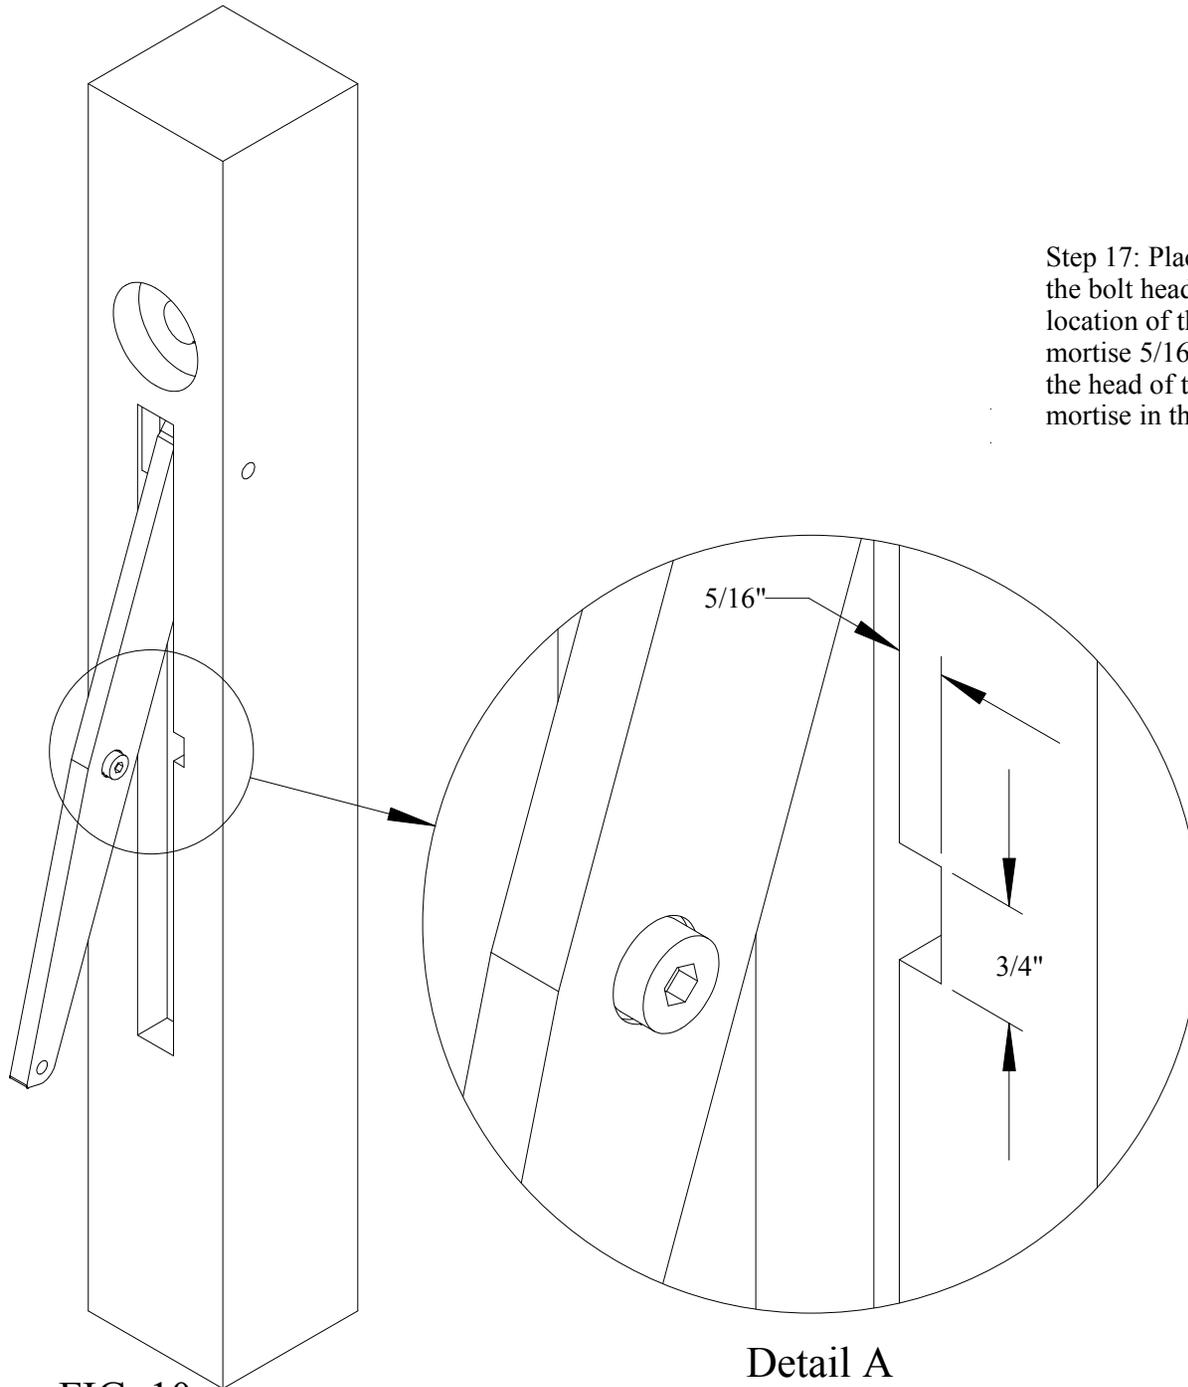

**FIG. 9**
Step 15: Install the wear plate at the bottom of the 7/8" deep left side mortise using the #6 X 3/4" wood screws. Pre-drill with a 7/64" diameter drill bit. See Fig. 9.
Step 16: Place the leg link into the right mortise oriented as shown in Fig. 9. Make sure the the pivot counter-bore is oriented as shown. Install the pivot pin into the hole and tap until it is through the pivot hole in the leg link. Make sure the pin is inserted at least 1" past the link. It may be necessary to use a 1/4" diameter pin punch or rod to fully insert the pivot pin. When you are totally finished you can plug the holes if you wish. If you ever need to remove the pin you can drill the plugs out and remove.